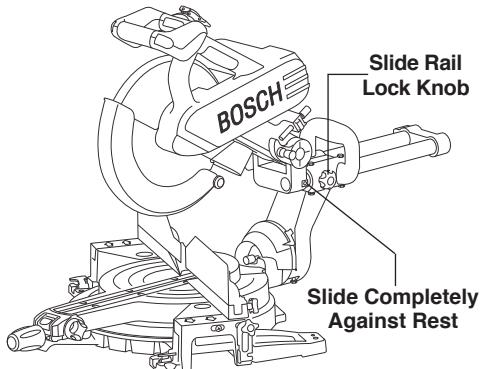

Figure 30. Chop Cut
- Slide the head assembly to the rear as far as it will go (Figure 30).
- Tighten the slide rail lock knob (Figure 30).